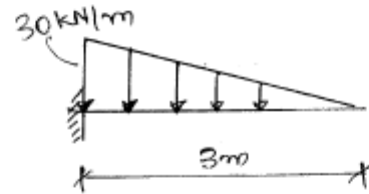

Fig. 8 Q.4(a)
- Q.4 (a)** Find the reactions at the fixed support for a beam loaded as shown in Fig.8 **07**